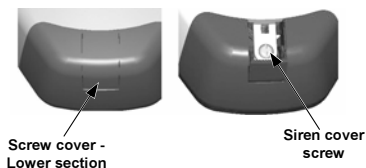
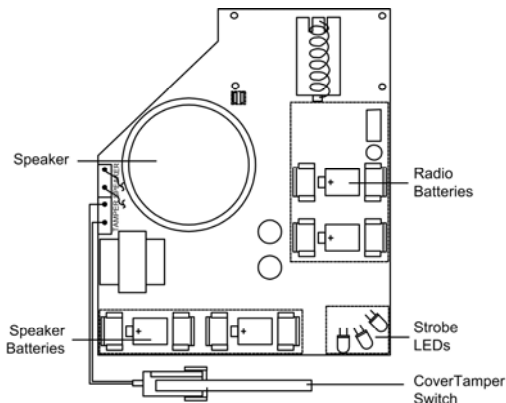

Figure 3-1: Opening the cover
Figure 3-2: Inserting the batteries
2. Open the screw cover by applying thumb pressure on the screw cover lower part (see Figure 3-1).
3. Open the covers screw (see Figure 3-1) and lift the front cover away from the rear housing.
5. Insert the batteries while paying attention to polarity (see Figure 3-2).
6. Secure the cover screw and replace the screw cover (see Figure 3-1)
5. Open the Siren Strobe (see Figure 3-1) and take out the batteries (see Figure 3-2).